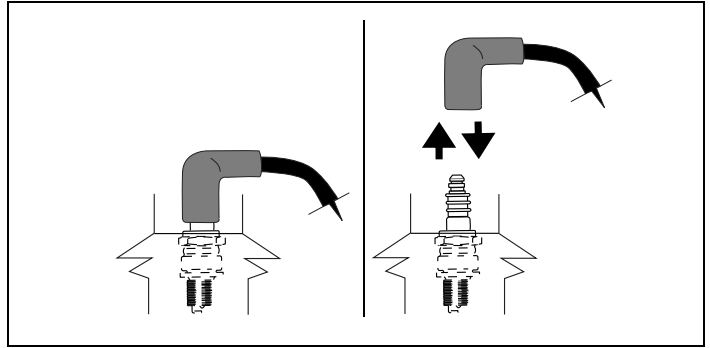

Figure 30. Disconnecting/Connecting Spark Plug
1. Carefully disconnect spark plug wire and keep it away from spark plug. See Figures 30 and 31. See "G. Avoid Accidental Starts" instructions on page 2. Afterward, continue reading instructions below.
14. Carefully disconnect spark plug wire from grounding post, if provided. See "G. Avoid Accidental Starts" instructions on page 2. See Figure 30 on page 14. Afterward, continue reading instructions below.